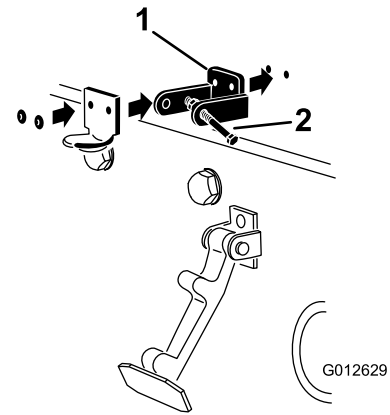

**Figure 7**
2. Remove the 2 rivets securing the hood-latch bracket to the hood (Figure 7).